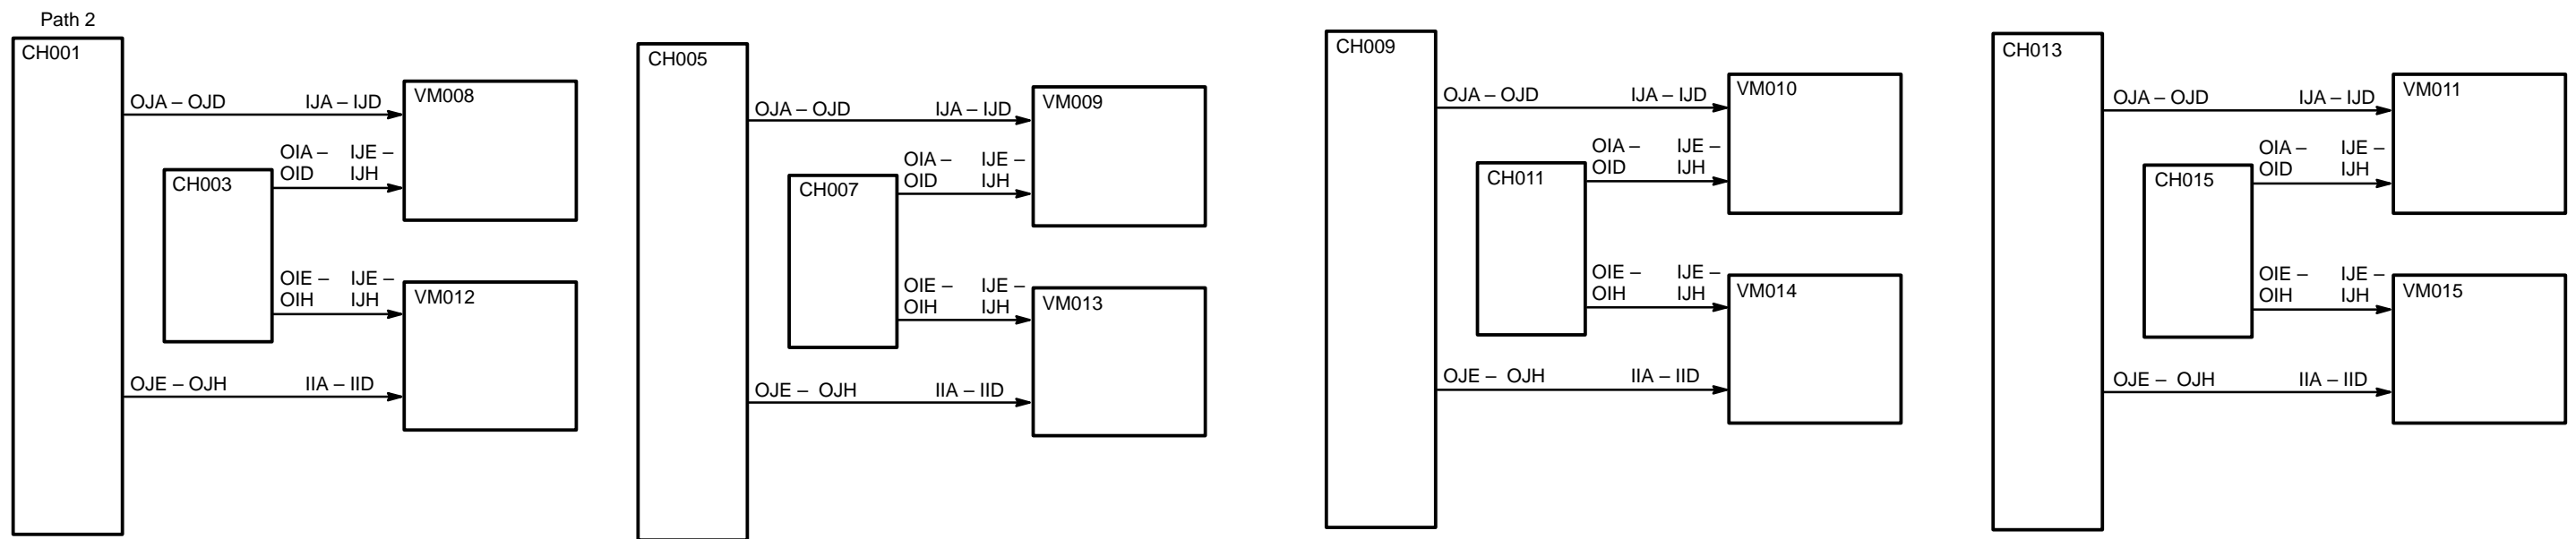

Figure 41. Memory Data to Vectors (Odd Elements)
- Figure 41 – vectors 0 through 3 pipe 0/1 write data path